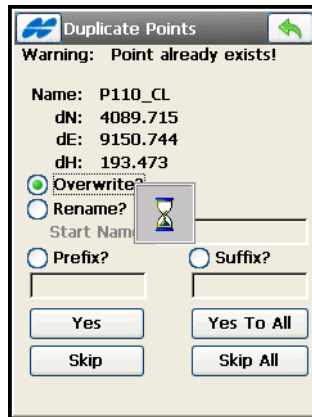

Figure 5-25. Duplicate <Objects>
11. When names of these exported objects coincide with existing ones in the job, the *Duplicate Objects* screen issues a warning that prevents the loss of points, roads, or point lists (Figure 5-25 on page 5-19).